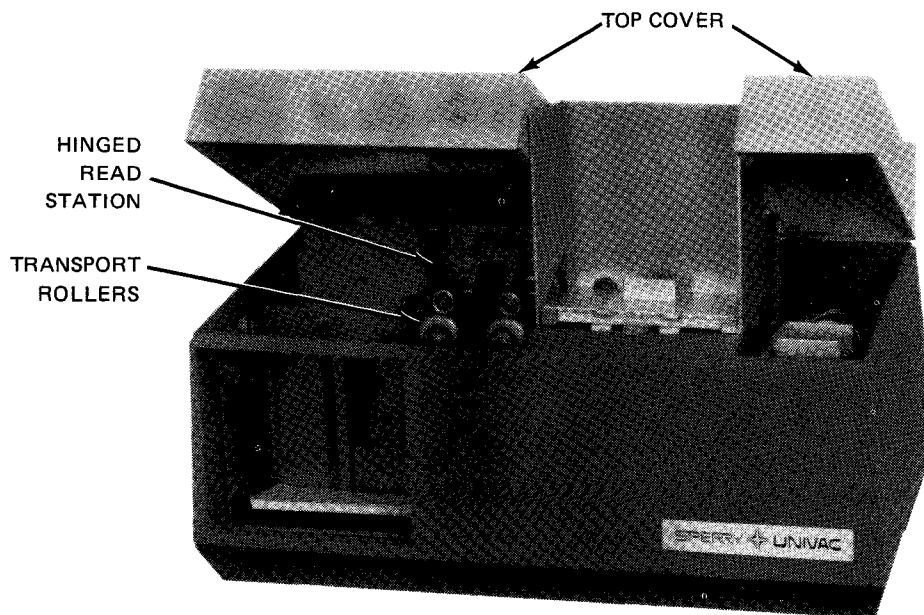

Figure 6—23. 0719 Card Reader, Read Station and Transport Mechanism
4. Remove card from transport mechanism by raising hinged read station (Figure 6—23) and gently turning transport rollers to free jammed card.